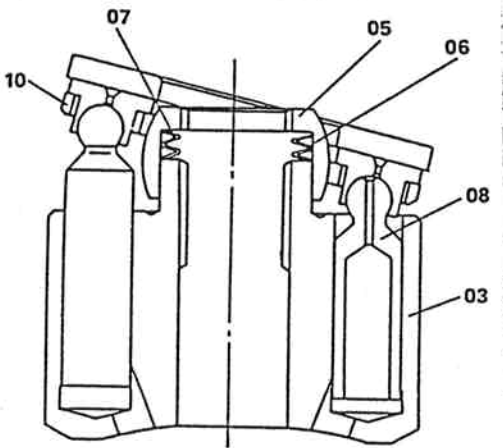

Fig.9 Cylinder Block Subassembly
- 7) Insert shoe plate (11) into swash plate (14) so that the largely chamfered side of the shoe plate faces the swash plate.
8) Assemble piston (08), cylinder block (03), keeper plates (10), spherical bushing (05), spring (06) and shim (07) as shown in Figure 9. Aligning the phases of the cylinder spline teeth and of the spherical bushing, insert the cylinder block assembly into case (15) so as to align with the drive shaft spline.